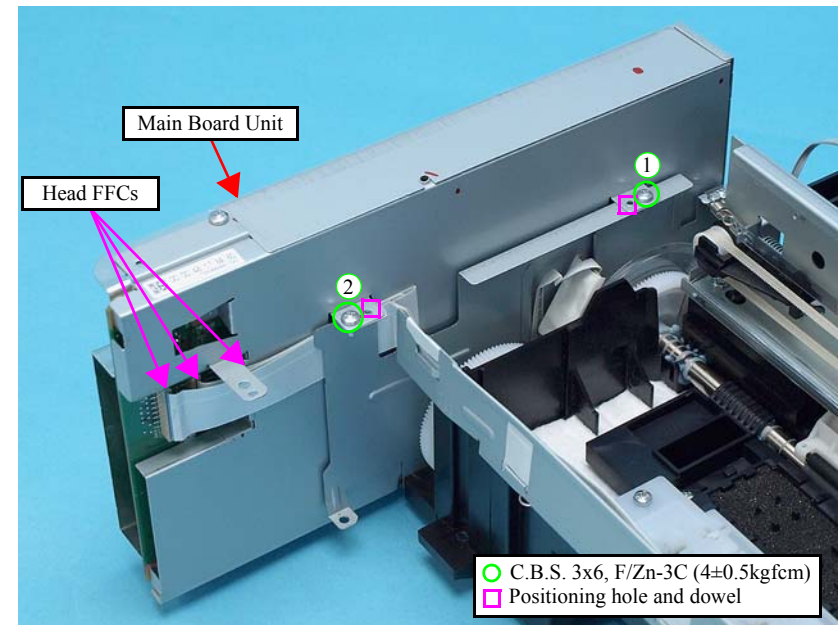

Figure 4-18. Removing the Main Board Unit
- When reassembling the Main Board Unit, make sure to match the positioning holes (x2) to the dowel (x2) of the Left Frame as shown in Figure 4-18.
- When installing the Main Board Unit, tighten the screws in the order given in Figure 4-18.